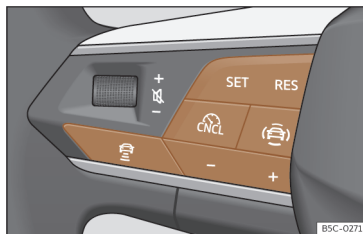

Fig. 138 On the multifunction steering wheel: buttons for operating the ACC.
- Press the  button on the multifunction steering wheel >>> **Fig. 138**.
- To start regulation, press the **SET** button >>> **Fig. 138**.
• Press the  button and then + or – button >>> **Fig. 138.**
• Briefly press  button >>> **Fig. 138** or press the brake pedal.